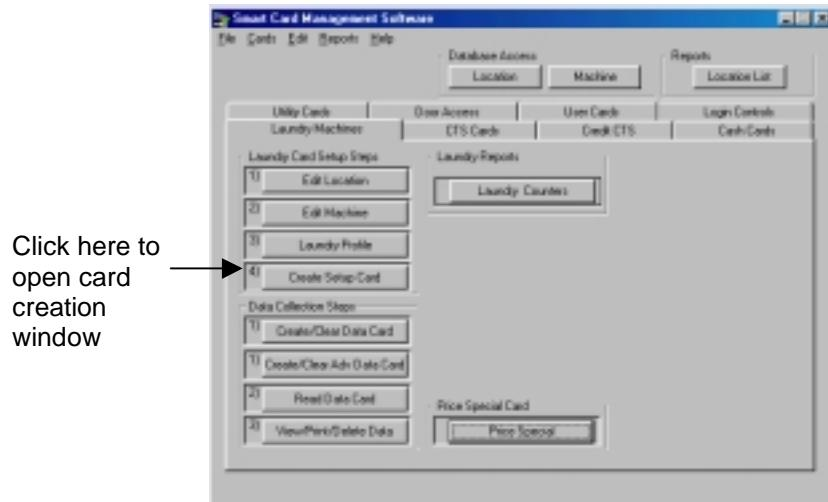

Figure 8.29 Creating a Laundry Setup Card
- In the Laundry Machines tab, click the Create Setup Card button (Figure 8.29).